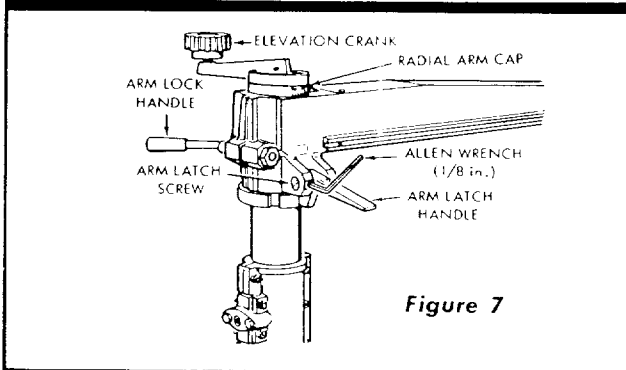

Figure 7
- a. Position the radial arm in 0° position, press arm latch handle down firmly into the detent notch. (See figure 7.)